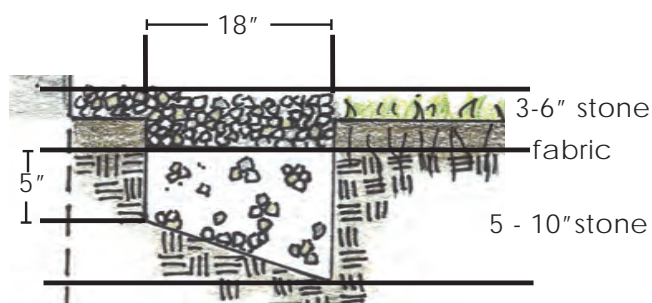

Figure 1. Profile for well drained soils.
**For Well Drained Soils: Fill the trench with stone.** Fill the trench with  $\frac{1}{2}$ " to  $1\frac{1}{2}$ " crushed stone until it is about 3" below the ground level. Place a piece of non-woven geotextile fabric over the stone layer and fill the remaining three inches with additional stone (Figure 1).